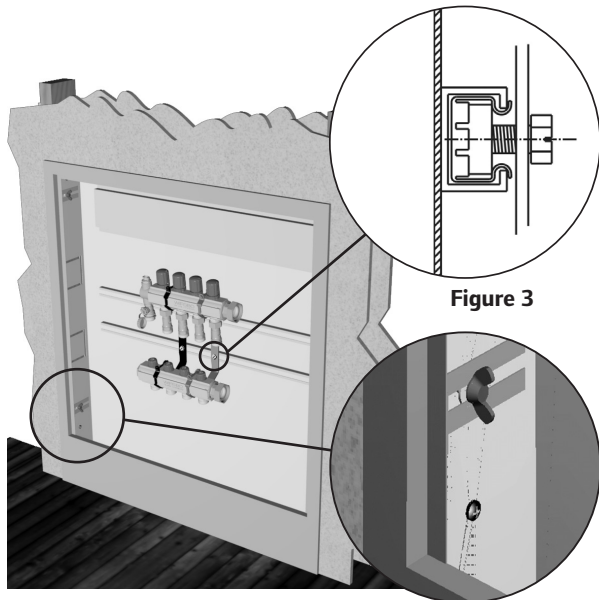

Figure 3
1. Insert the cage nuts (included) in the mounting rail. (See **Figure 3.**)